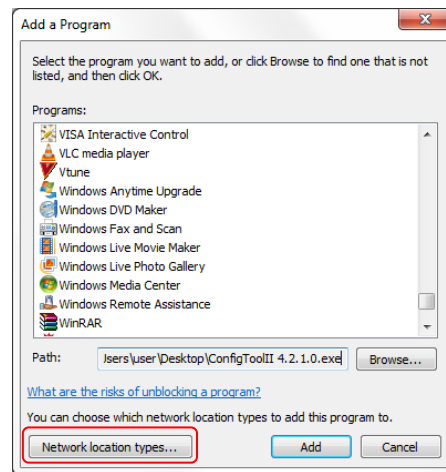

Figure 89 - Choose network location types
- Click the “Network location types...” button. Refer to Figure 89.